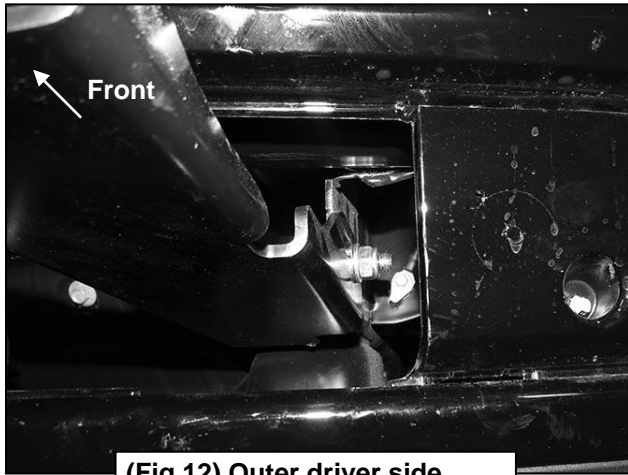

Fig 10
4. Repeat **Step 3** to install the 12mm x 35mm Single Bolt Plate, **(Figure 10)**, into the remaining hole in the other side of the frame channel and Bracket, **(Figures 11 & 12)**.